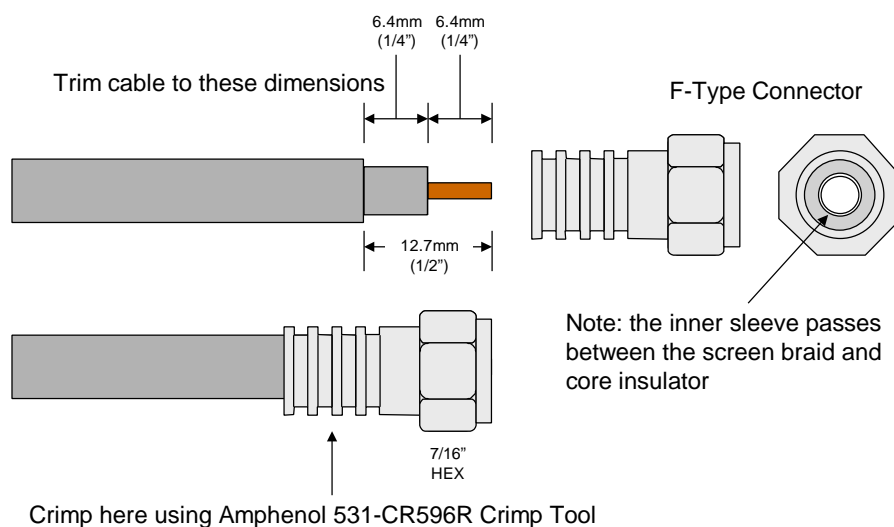

Figure 25. Terminating F-Type Connectors to T6 cable
1. Strip the Drop Cable using a knife or cable stripping tool to the dimensions shown in Figure 25.